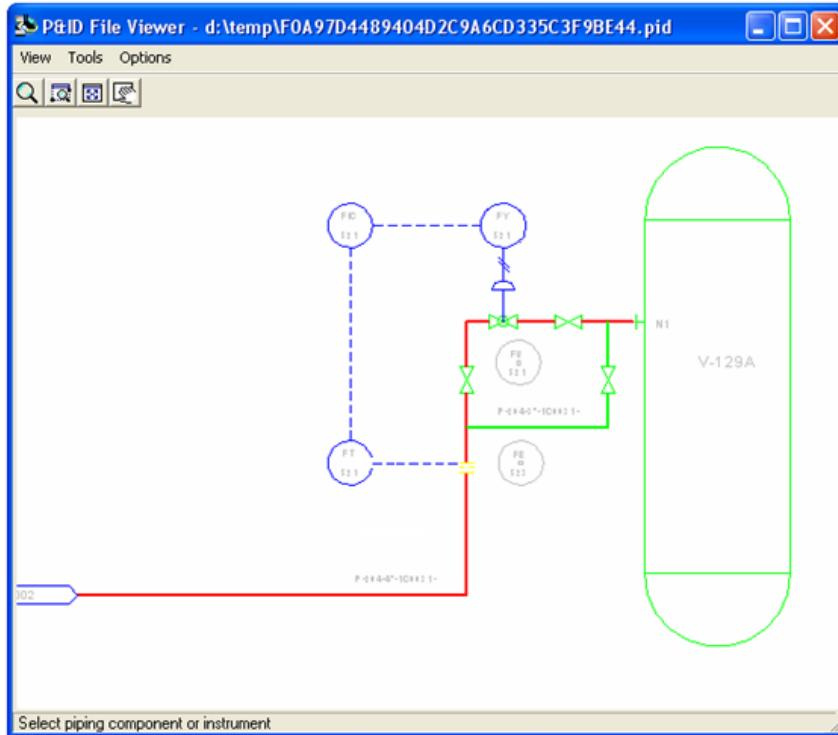

Figure 45: Selected Instrument
29. The **P&ID File Viewer** window appears. In the **P&ID File Viewer** window, select the instrument located in the pipeline, as shown in Figure 45.